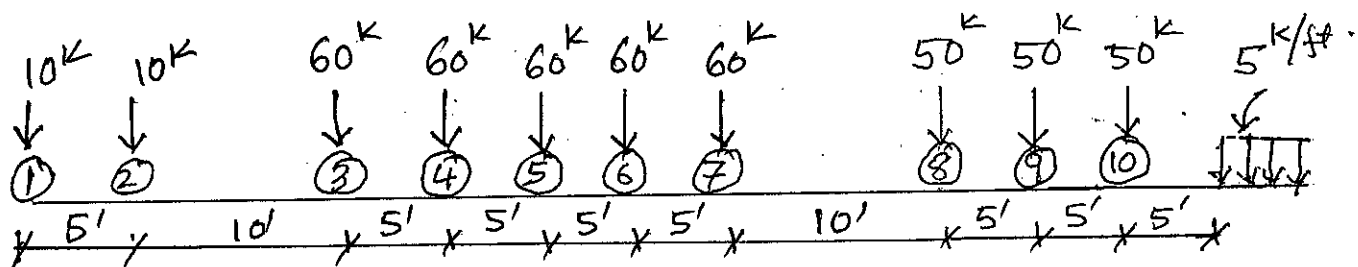

Fig. 2
2. Compute maximum shear at quarter point of a simply supported beam of 60 ft due to the wheel loads shown in Fig. 2. (28)
3. Determine maximum moment at one-third point of a simply supported beam of 60 ft due to the wheel loads shown in Fig. 2. (28)
(b) A rectangular RC beam as shown in Fig 2 measures 14 in. wide and has an effective depth of 23 in. Tension steel consists of eight No. 8 bars in two layers ($d = 23$ in., $d_t = 24.5$ in.) and compression steel consists of four No. 8 bars is located 2.5 in. from the compression face. What is the design moment capacity of the beam according to ACI/BNBC code? Check for yielding of compression steel and ϵ_t .